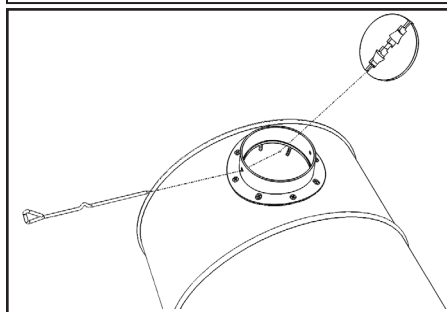

Figure 8
10. Attach the flue damper to the flue collar. (Figure 8)
15. Install flue damper to top barrel. (Figure 8)